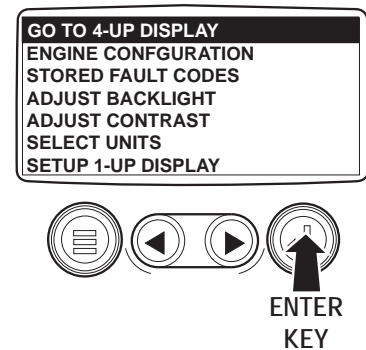

Figure 11 – Main Menu
3. To switch to the 4-UP DISPLAY, touch the Menu Key to display the first seven items of the Main Menu. See Figure 11.